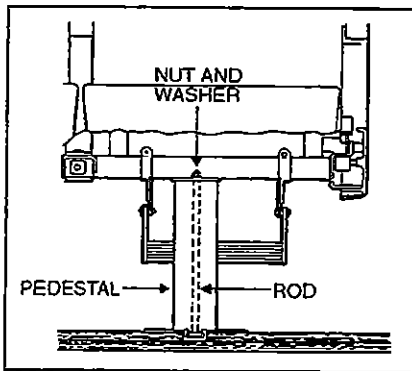

Figure 49
5. Remove 2 nuts and washers holding seat frame to pedestal rods. See figure 49.